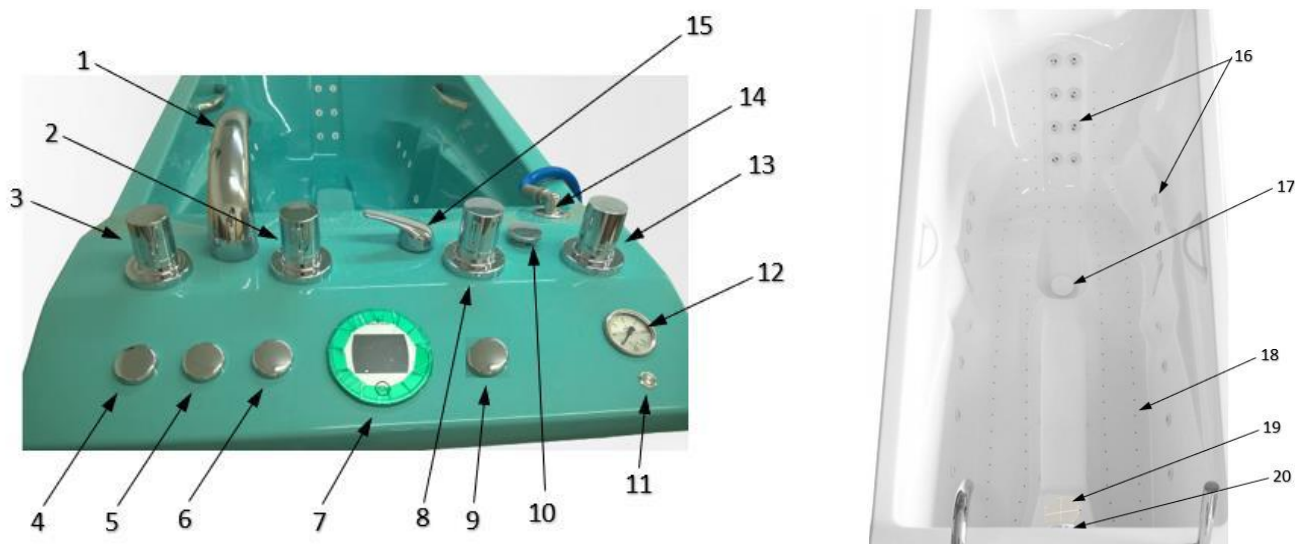

Figure 1 - View of the ORIONMED bathtub basin with control and regulation elements
The basin of the bathtub is made out of high-quality acrylic glass, reinforced with glass fibres. The outer casing of the bathtub is also made of plastics, reinforced with glass fibres. The use of such materials provides a long-term and trouble-free operation of the bathtub. The entire water system, with the exception of connections, valves, is made of PVC, which ensures high reliability. After filling the bathtub by turning on the hot and cold water valves (fig. 1 – pos. 1 and 2) up to a level, controlled electronically, the start of bath is possible in manual control mode of its progress, or in program control mode. Water pump, switched on in suitable time sequence, pumps water through the bathtub basin nozzles (fig. 1 – pos. 11 and 13). Pearl bath system is performed by electrically powered air blower that draws air, pumped under pressure by pan vents and broken down into different-sized particles, released into the water in the bathtub.